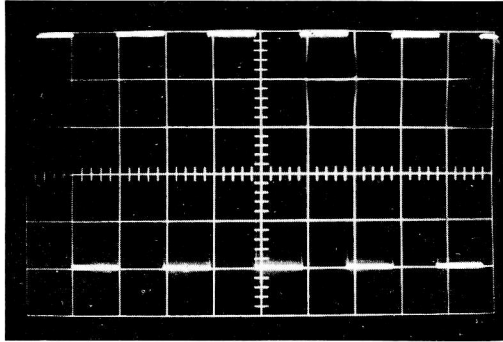

Figure 3-4. Volts Out Display
- e. Observe that the oscilloscope under test displays the square wave signal at approximately 5 divisions peak-to-peak. See Figure 3-4.